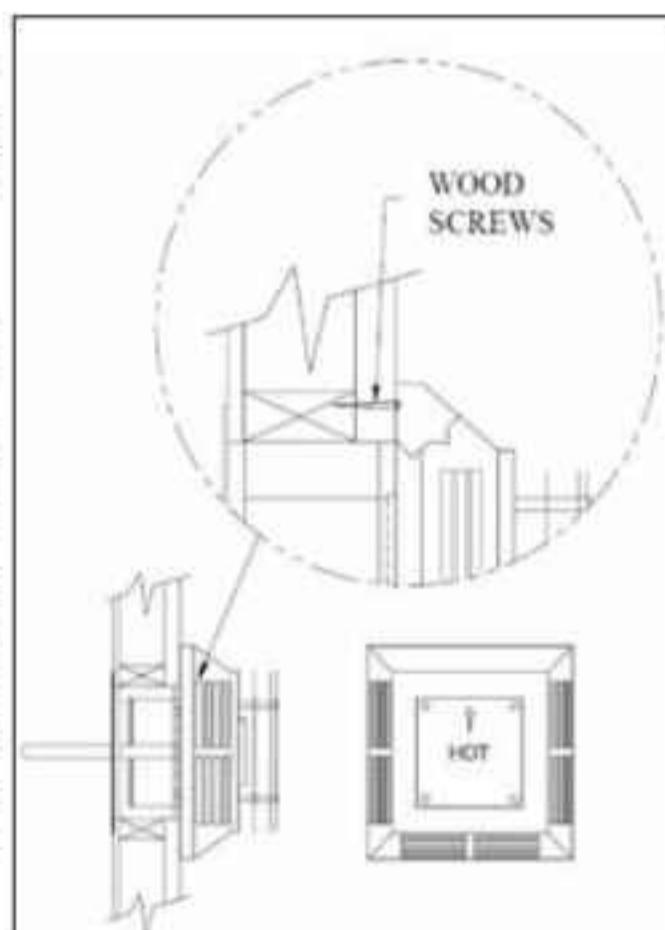

Figure 36: Fastening Horizontal Termination Cap in Place.
- (1) Any horizontal run of vent must have a $\frac{1}{4}$ inch (6mm) rise for every 1 foot (305mm) of run towards the termination. Never allow the vent to run downward. This could cause high temperatures and may present the possibility of a fire.
- (2) The location of the horizontal vent termination on an exterior wall must meet all local and national building codes, and must not be easily blocked or obstructed. Termination clearances must comply with the VENT TERMINATION RESTRICTIONS section.
Step 4. For a Square Horizontal Vent Termination, place the vent cap in the center of the square hole and attach to the exterior wall with the four wood screws provided (refer to Figure 36). Before attaching the Vent Termination to the exterior wall, run a bead of non-hardening sealant around its outside edges, so as to make a seal between it and the wall. If you are using a Round Horizontal Vent Termination, place an exterior Wall Firestop over the square hole. Run a bead of non-hardening sealant around the edges of the Wall Firestop, and attach the Wall Firestop to the wall with the four wood screws provided. The arrow on the vent cap should be pointing up. Ensure that proper clearances to combustible materials are maintained.